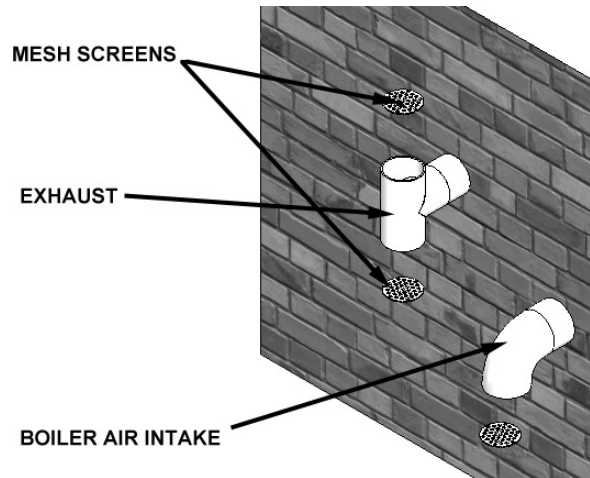
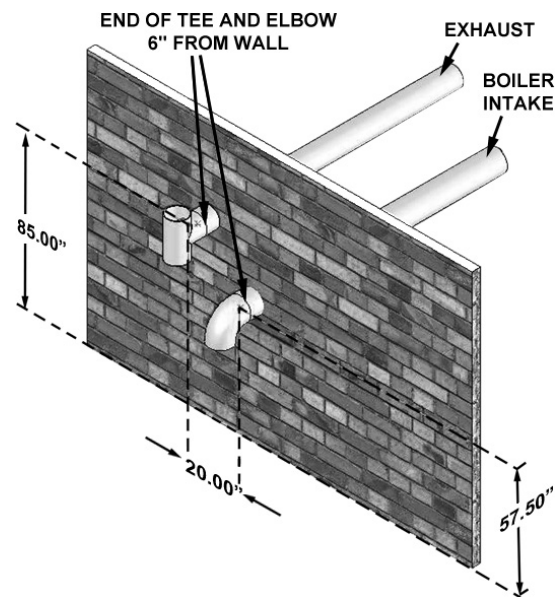

FIGURE 33. AIR/VENT TERMINATION - HORIZONTAL
FIGURE 34. HORIZONTAL CLEARANCES - AIR/VENT TERMINATION
3. The air piping must terminate in a down-turned elbow, using a mesh screen. This setup will avoid recirculation of flue products into the combustion air stream. See Figure 33.
4. The vent piping must terminate with a Tee pointed upwards and away from the air inlet. See Figure 33.
5. Maintain clearances as shown in Figure 33 and Figure 34. Vent must terminate:
Air inlet must terminate at least 12 inches (305 mm) above grade or snow line; at least 12 inches (305 mm) below the vent termination; and the vent pipe must not extend more than 24 inches (610 mm) vertically outside the building as shown in Figure 33 and Figure 34.